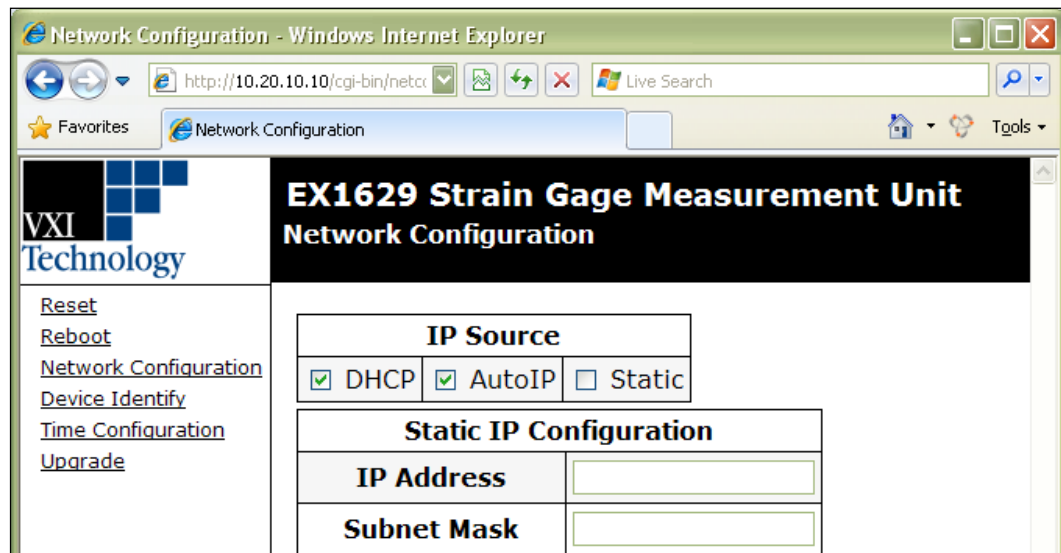

FIGURE 2-13: EX1629 SET TO USE AUTO IP
- 5) Select **DHCP** and **AutoIP** in the **IP Address Source** field and ensure that **Static IP** is not selected. Figure 2-13 shows the proper configuration. Click the **Submit** button to save all changes.